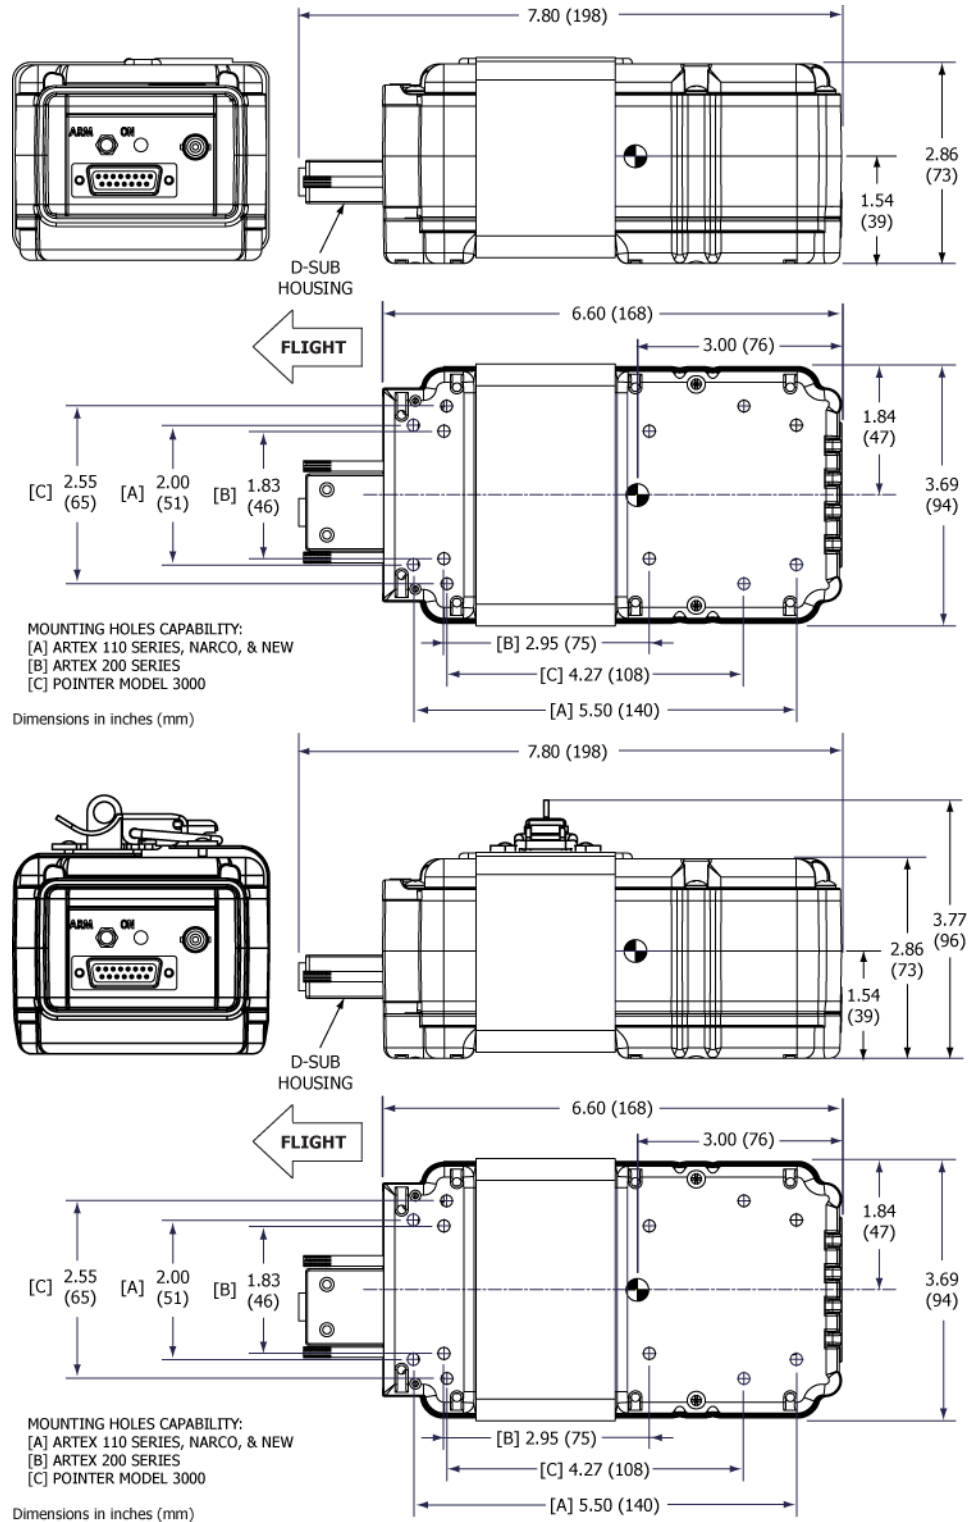
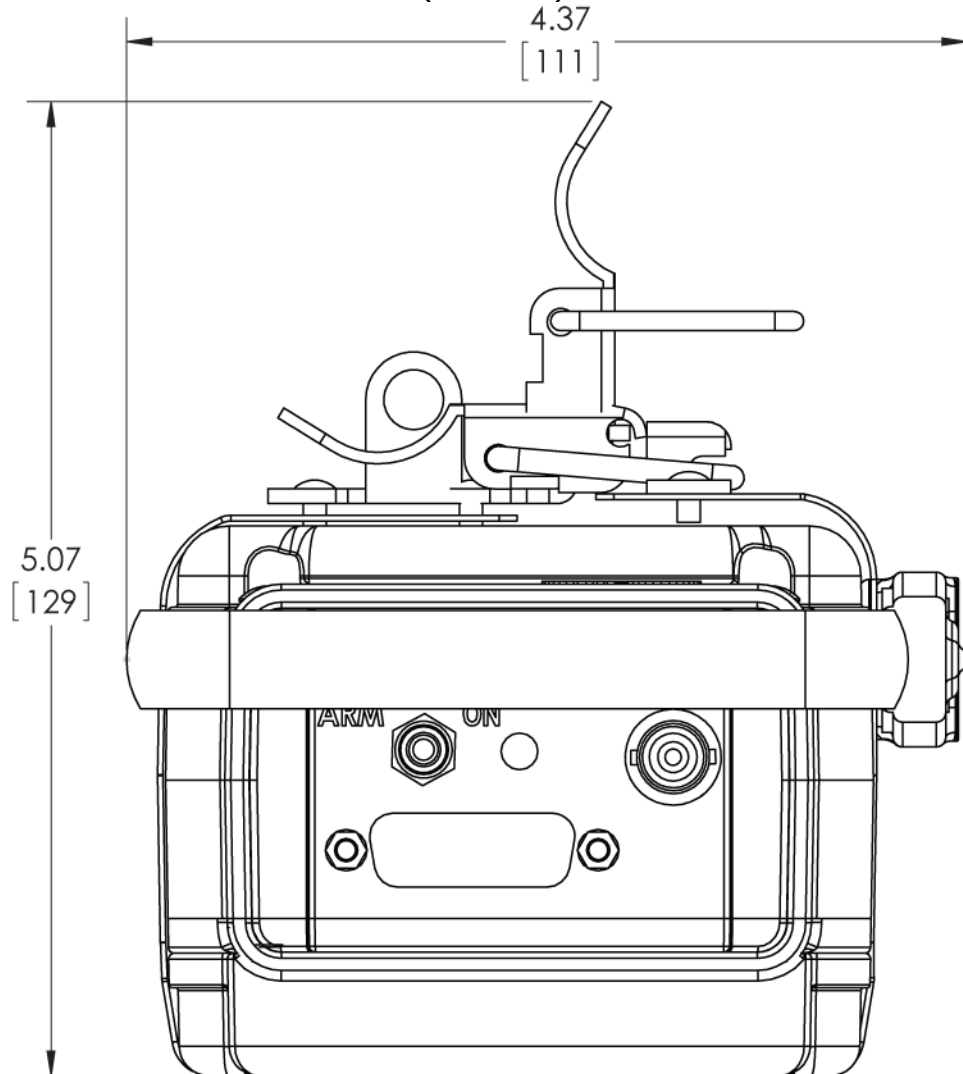

Figure 15 ME406P ELT Outline and Dimensions
Figure 16 ME406P Mounting Tray Minimum Clearance Dimensions
- 1) Select a suitable location for the ELT mounting tray. See Figure 15 ME406P ELT Outline and Dimensions on page 47 and Figure 16 ME406P Mounting Tray Minimum Clearance Dimensions on page 48. Refer to these dimensions when determining mounting location.
- 4) Mark the four holes needed for mounting the tray, using the tray as a pattern. The hole pattern is also illustrated in Figure 15 ME406P ELT Outline and Dimensions on page 47.